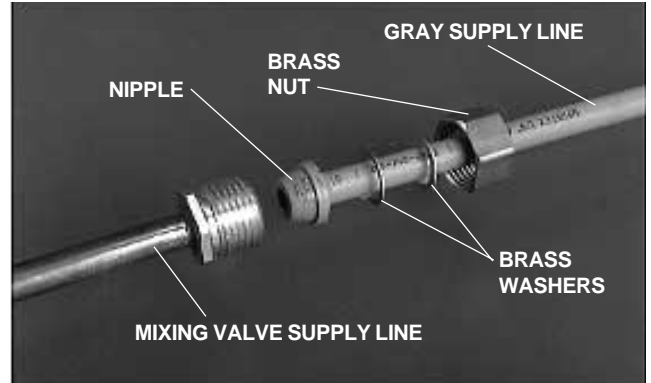

FIGURE 5
1. Slide two brass washers and a brass nut over the small end of both three foot long gray tubings (see *Figure 5*). Install the gray tubings into the mixing valve supply lines (*nipple end toward the mixing valve*). Slide the washers and nut onto the mixing valve supply line and tighten firmly.